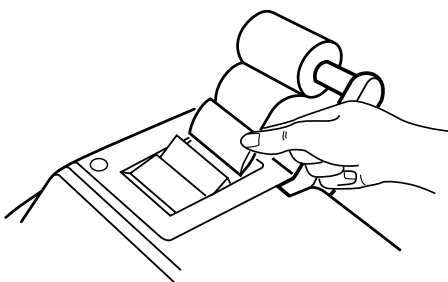

Fig. 4
4. Insert the leading edge of the paper into the opening directly behind the print mechanism. (Fig. 4)